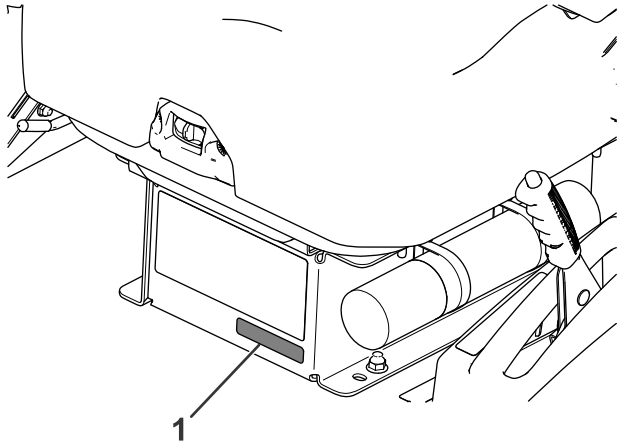

Figure 7
1. Install the decal on the machine as shown in Figure 7.